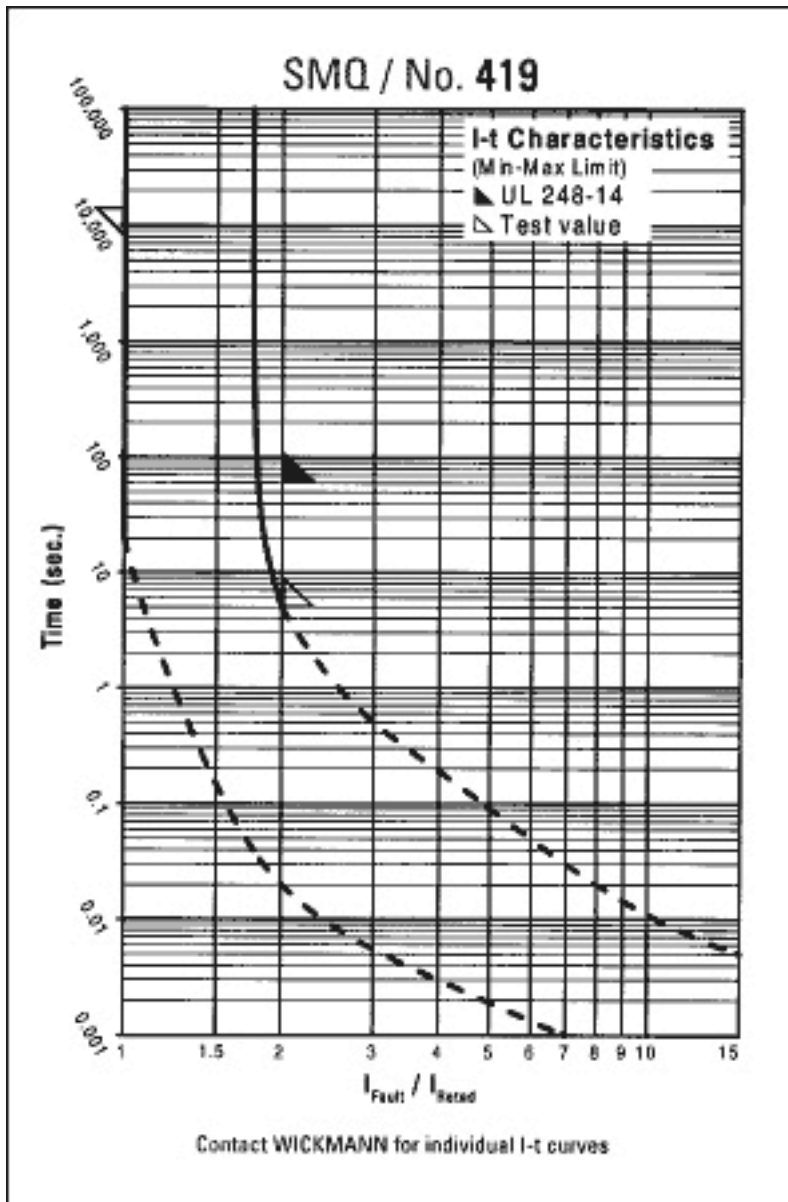

Figure 5. Fuse current-time characteristics (courtesy Wickmann).
- Select a fuse that will survive this $< 100\mu\text{sec}$ transient without blowing. To do this, a curve of time vs. current is required for the selected fuse. This curve can be obtained from the fuse manufacturer, and is reproduced in **Figure 5**. The left curve boundary indicates that any value to left of the curve will not